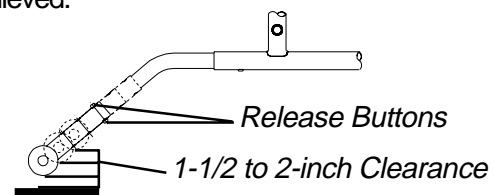

**FIGURE 2 - INSTALLING THE ANTI-TIPPERS**
1. Depress the release buttons and insert the anti-tippers with the anti-tipper wheels pointing toward the ground/floor into the wheelchair frame tubing as shown in FIGURE 2.